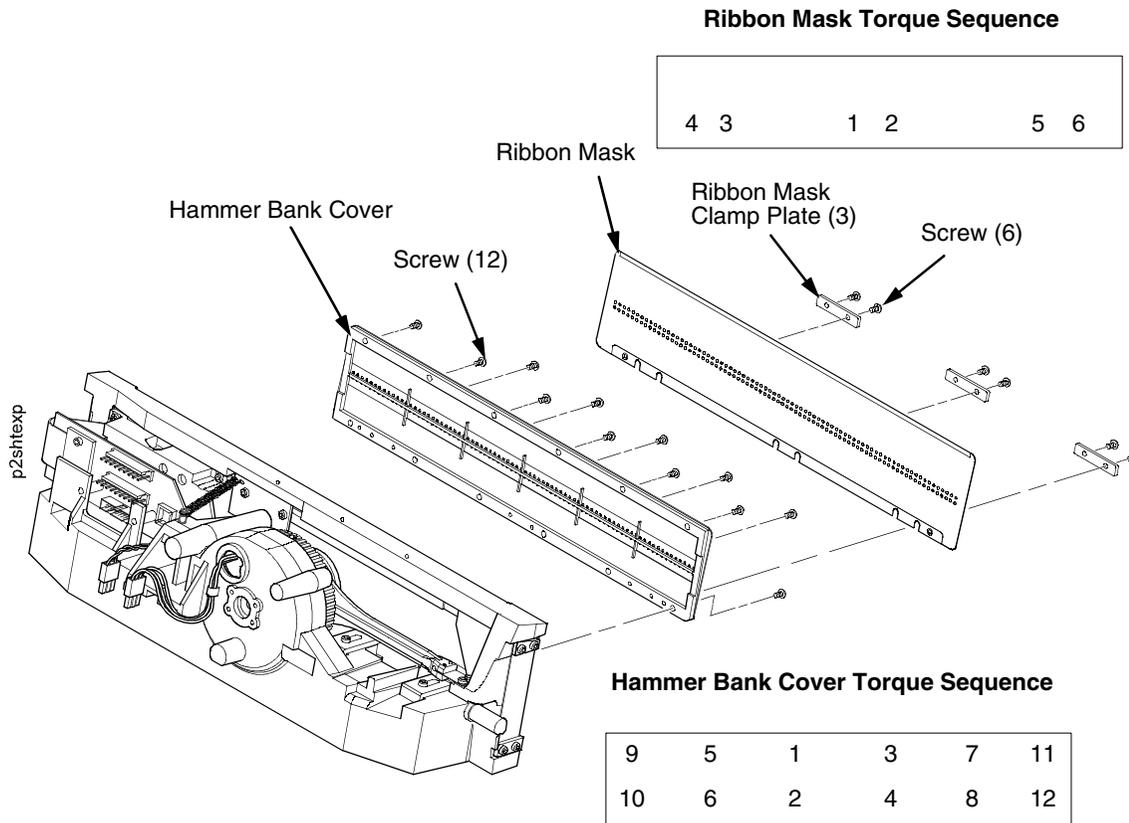

Figure 26. Hammer Bank Cover Assembly / Ribbon Mask
3. Using a Torx T-10 driver, remove the six screws and three ribbon mask clamp plates securing the ribbon mask to the hammer bank cover. Remove the ribbon mask. (See Figure 26.)
4. Using a Torx T-10 driver, remove the 12 screws securing the hammer bank cover to the hammer bank. Remove the hammer bank cover. (See Figure 26.)
2. Install all 12 hold-down screws finger tight. Using a Torx T-10 driver, torque the hold-down screws to 14 inch-pounds (1.58 N•m) in the sequence shown in Figure 26.
3. With the foam spacers on the upper edge of the ribbon mask facing inward (toward the hammer bank cover), position the ribbon mask on the alignment pins on the hammer bank cover. The ribbon mask is correctly installed when the angled ends of the ribbon mask match the angled ends of the hammer bank cover. Install the three clamp plates and six screws finger tight. Using a Torx T-10 driver, torque the six screws to 14 inch-pounds (1.58 N•m) in the sequence shown in Figure 26.